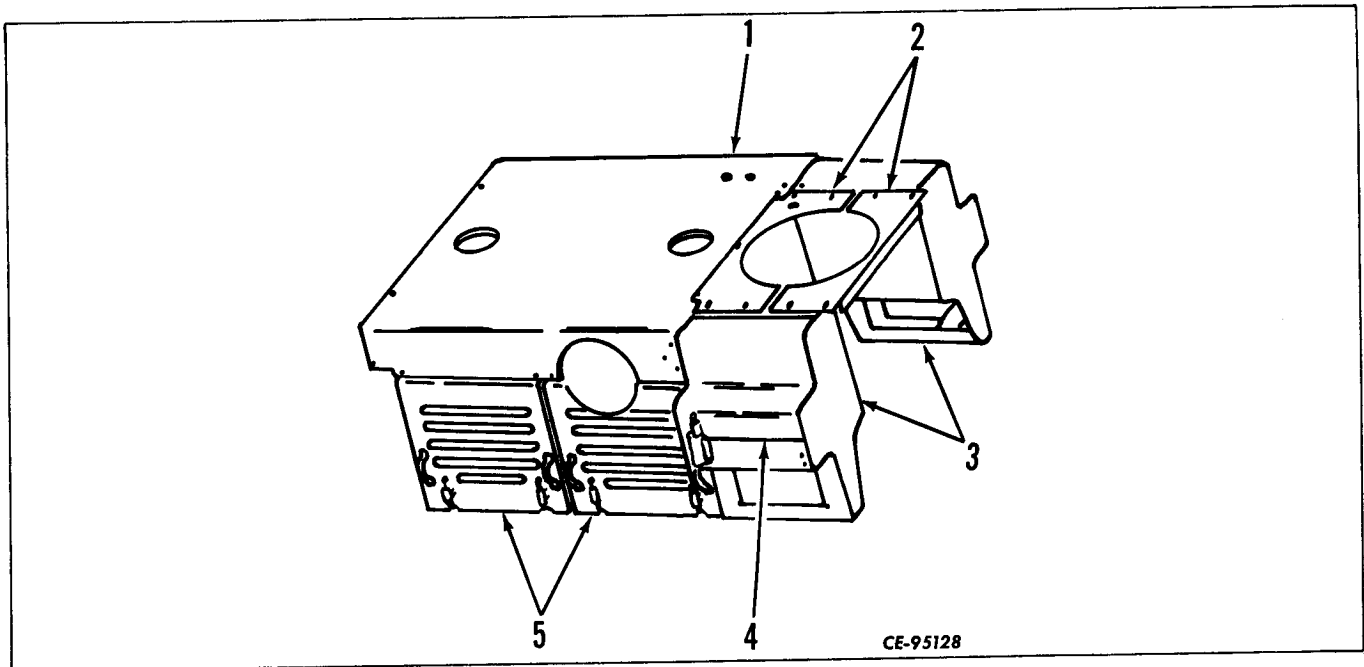

Figure 1-9
The sheet cowling, as in the case of the main frame, is made primarily by joining various weldments. The frames (3, Fig. 1-9), assisted by the grille (1, Fig. 1-2) of the main frame group, forms a backbone for the sheet cowling. The hood (1, Fig. 1-9) supported by the frames and grille provides the suspension member for the hood side panels (5). The battery boxes, both left and right, are constructed as part of the left and right frame weldments (3, Fig. 1-2). To these boxes the cover assemblies (4) are added.